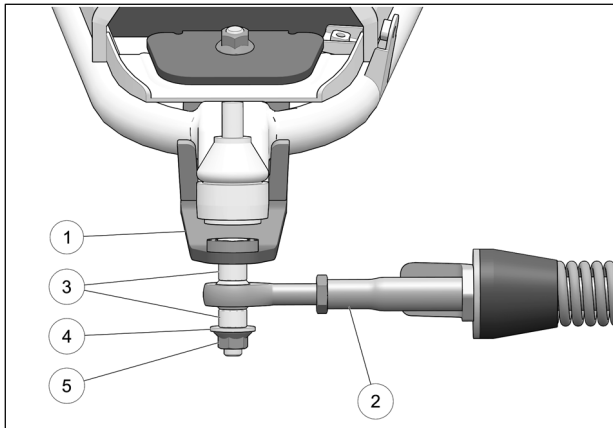

Fig. 17
- Attach stabilizing rod (2) to anchor bracket (1), using the two spacer bushings (3), flat washer (4) and nut (5). Torque to 70 N•m [52 lb•ft]. See Fig. 17